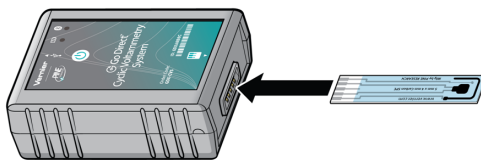

Figure 2
4. Insert a SPE into the SPE connector on the Cyclic Voltammetry System (see Figure 2).